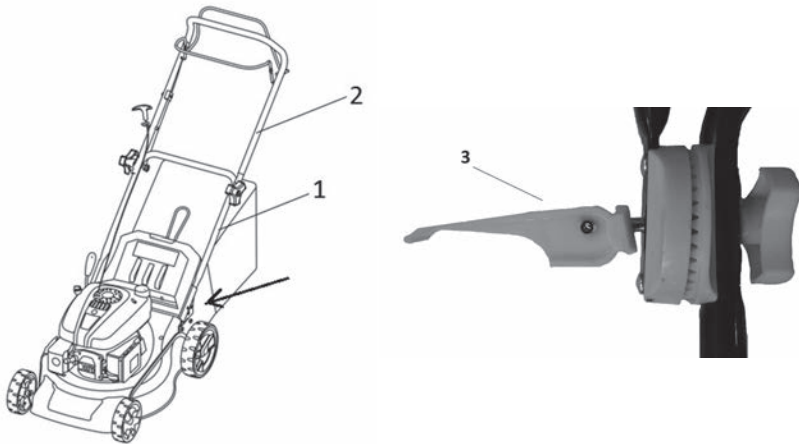

Fig. 2
1. Insert the bottom part of the handle (Fig. 2 – point 1) into the respective holes on the lawnmower (see arrow) and secure in place with screw and nut.
2. Attach the top part of the handle (Fig. 2 – point 2) to the bottom part of the handle using the included screws with the quick coupler and wing nuts (Fig.2 – point 3).